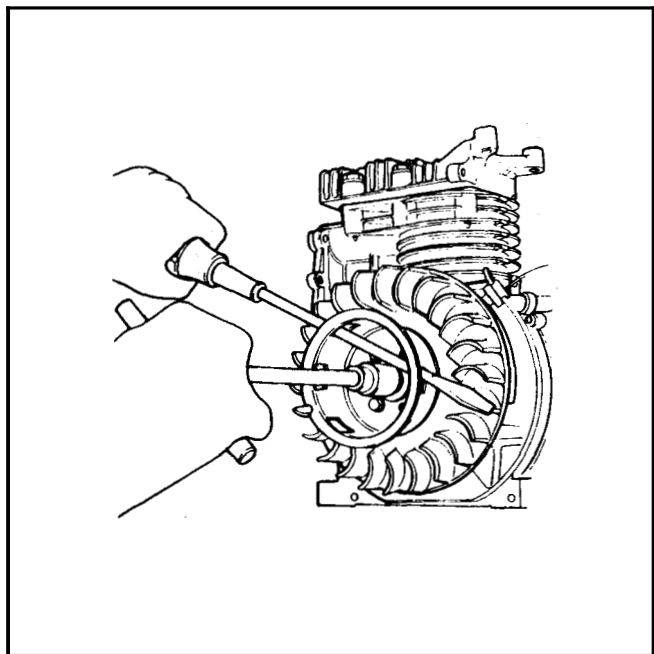

Figure 41
3. On models with internal ignition coils, remount the flywheel. Make sure the taper on the flywheel and the taper on the crankshaft are clean. Torque the flywheel nut to 6.0 - 7.0 kg m (43 - 50 ft lbs) on all engines. See Figure 41.